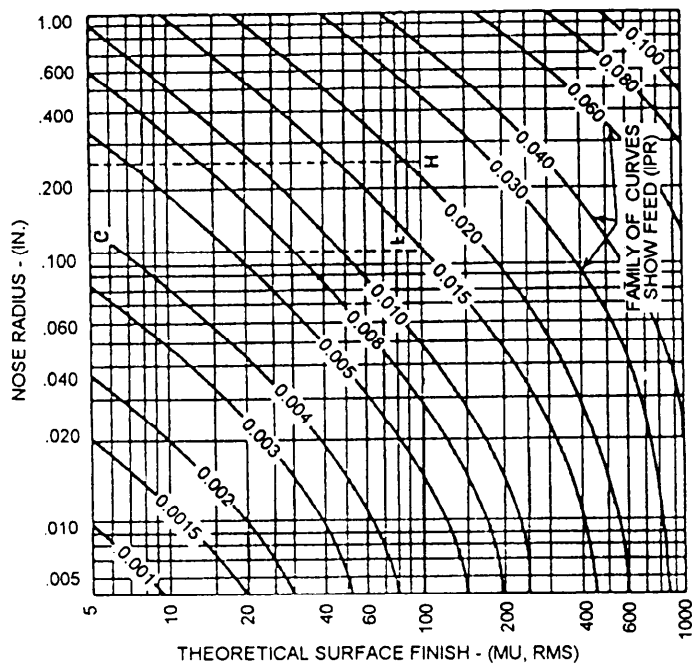

Figure 5-13.—Surface finish vs nose radius chart.
**NOSE RADIUS.**—Selecting the nose radius can be important because of tool strength, surface finish, or perhaps the need to form a fillet or radius on the work. To determine the nose radius according to strength requirements, use the chart shown in figure 5-13. Consider that the feed rate, depth of cut, and workpiece condition determine strength requirements.